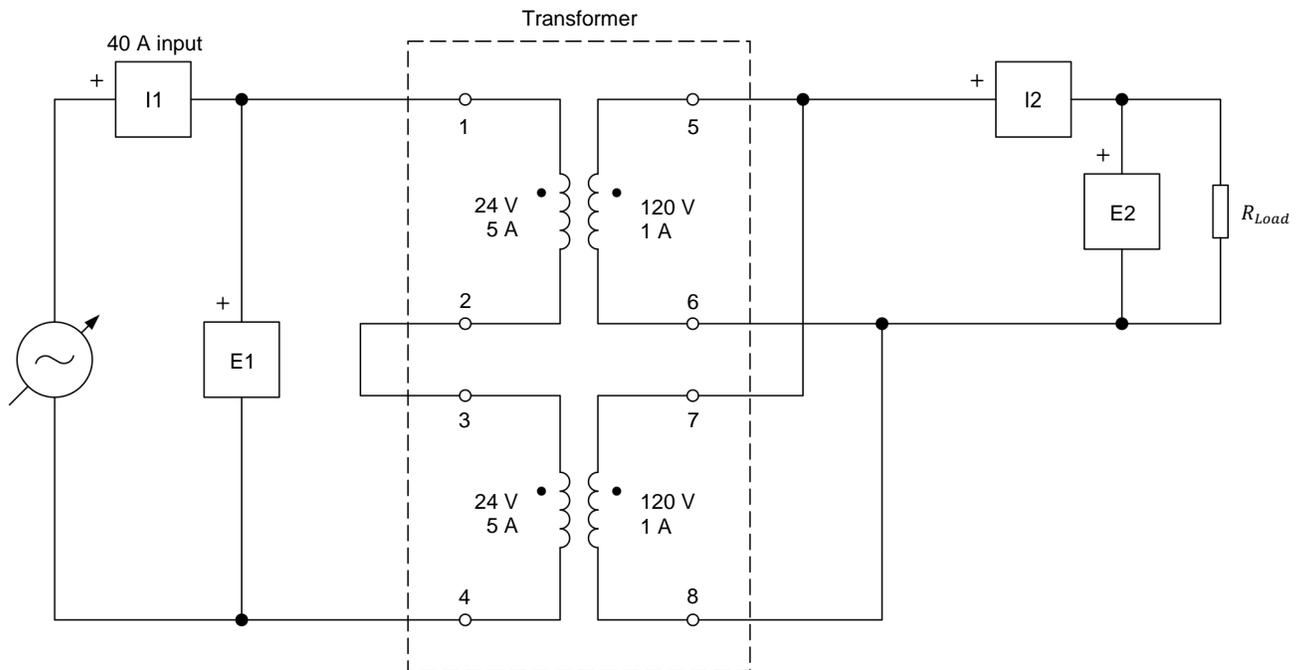

Figure 25. Transformer circuit used for studying transformer losses, efficiency, and voltage regulation.
8. Connect the equipment as shown in Figure 25.